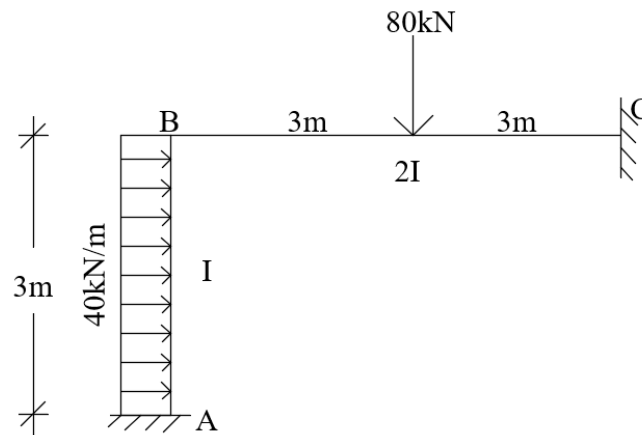

Fig. 2
- 2 a) Differentiate between force and displacement methods of analyses. Give one example for each case. (3)
- b) Determine the moments at A, B and C using slope deflection method for the frame shown in Fig 2. Draw the BMD. (12)
5 Analyse the frame in Fig. 2 by Kani's method. Draw BMD. (15)